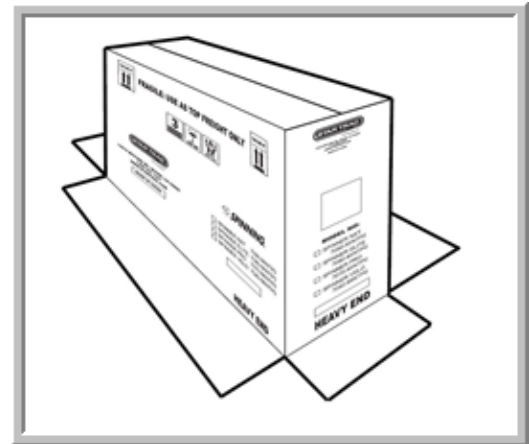

Fig. 2
2. Return the opened box back to the upright position (Fig. 2).